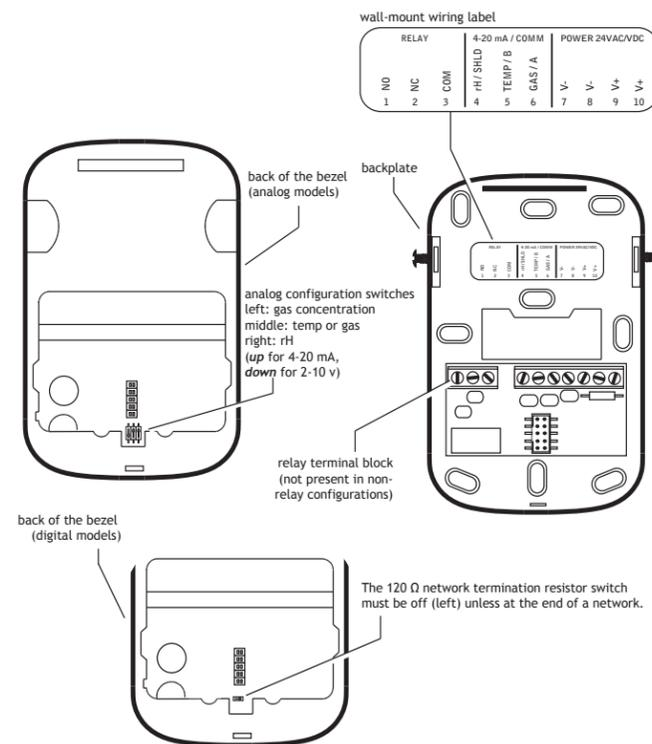

Figure 2: wiring the wall-mounted monitor
- Connect each of the wires to the corresponding terminals on the backplate, as shown in Figure 2. Wire digital models as indicated on the label. Note that the meaning of the A and B symbols for EIA/RS-485 wiring varies among vendors. Terminal 6 corresponds to BACnet "+", the Modbus "D1", and the EIA/RS-485 "B". Terminal 5 corresponds to BACnet "-", the Modbus "D0", and EIA/RS-485 "A".